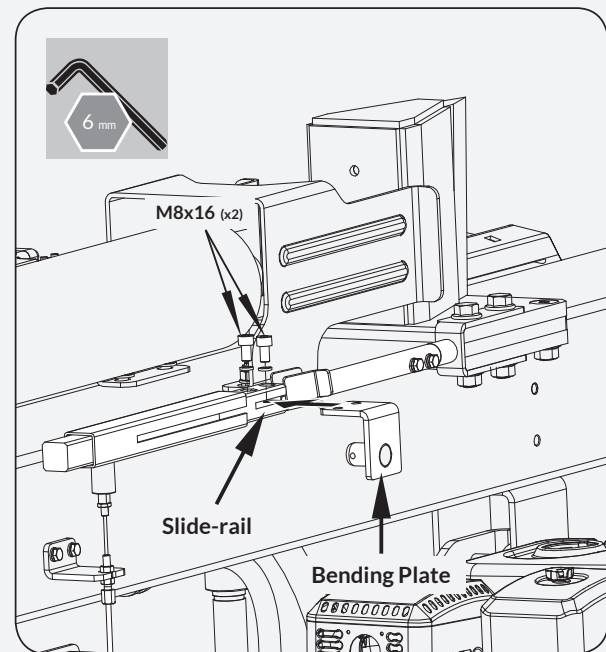

Figure 16b
2. Insert the bending plate into the U-shaped narrow slot of the slide-rail, align the two holes on the bending plate with the two holes on the slide-rail, and then tighten them with M8x16 bolts. (See **Figure 16b**)